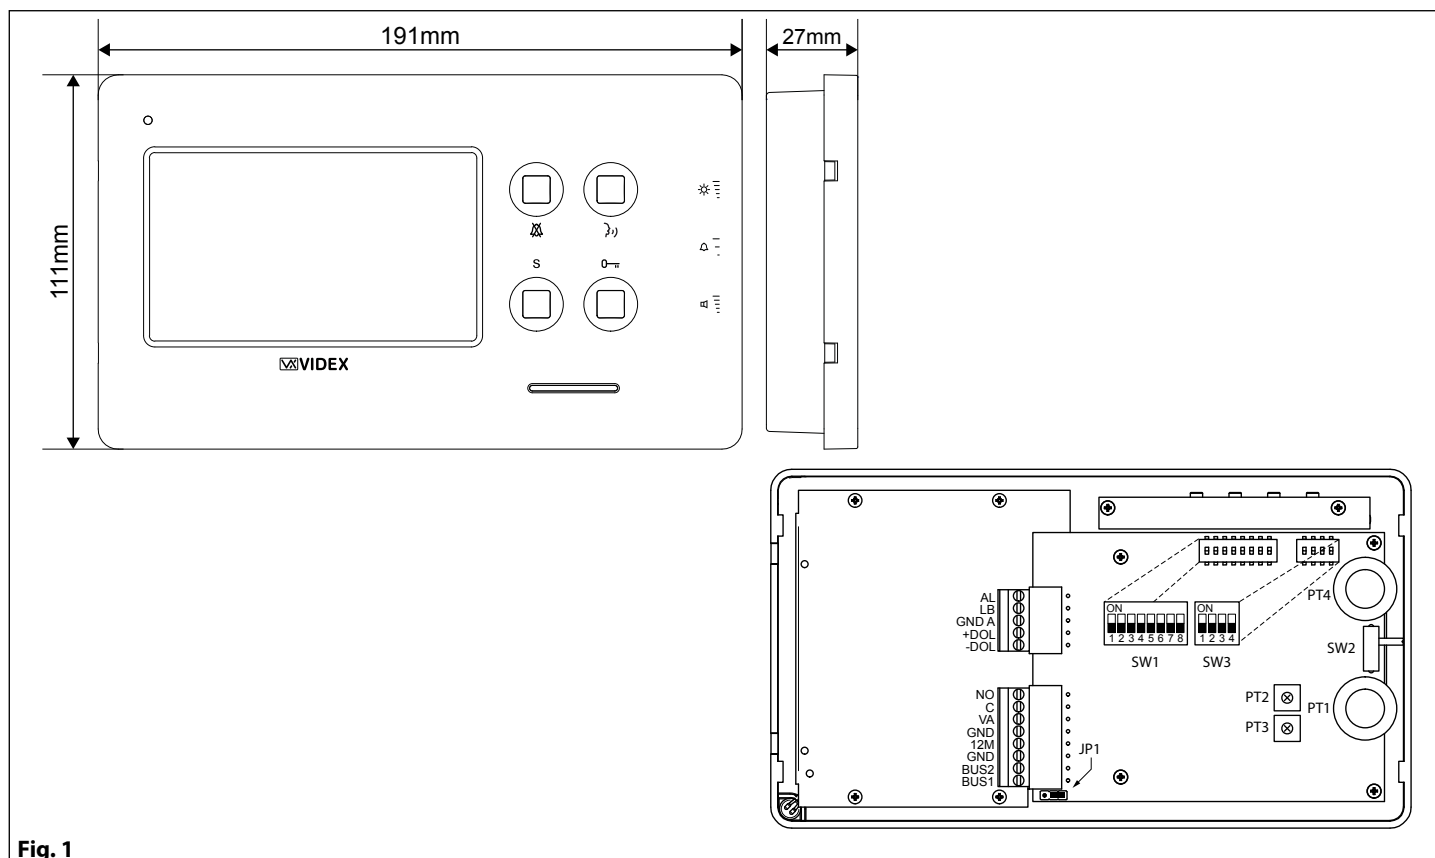

Fig. 1
1. Place the surface box against the wall (165-170cm between the top of the box and the floor level as shown in **Fig. 1**) and mark the fixing holes for the wall plugs and the hole for the cables **E** (**fig. 2**). Observe the orientation of the box with the hinge on the left;
1. Protect the module support frame fixing holes from dust then embed the back box into the wall (165-170cm between the top of the box and the floor level as shown on the **Fig. 1**) feeding the cables **E** (**Fig. 2**) through a previously opened hole in the box. Observe the direction of the box ensuring the hinge is on the left and take care that the box profile is in line with the finished wall profile;
PUSH BUTTONS (FIG. 1)
LEDs (FIG. 1)
CONTROLS (FIG. 1 AND FIG. 2)